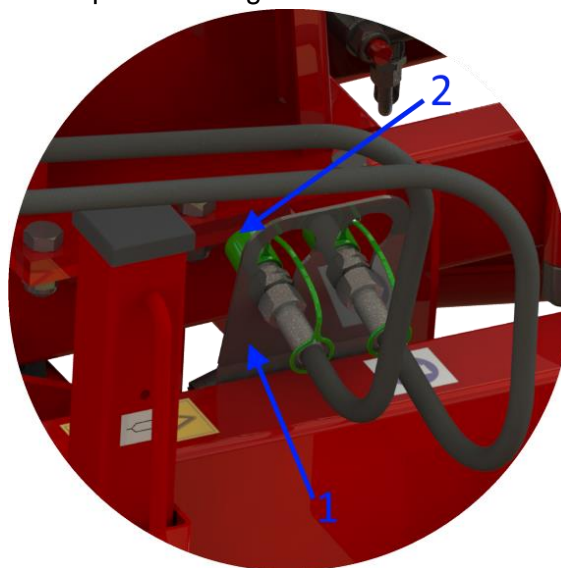

Figure 5. Place for storing hydraulic hoses
- Disconnect the power hydraulics system and protect the hydraulic hoses in their clamps on the Bale Wrapper's frame (**Fig. 5 - 1**).